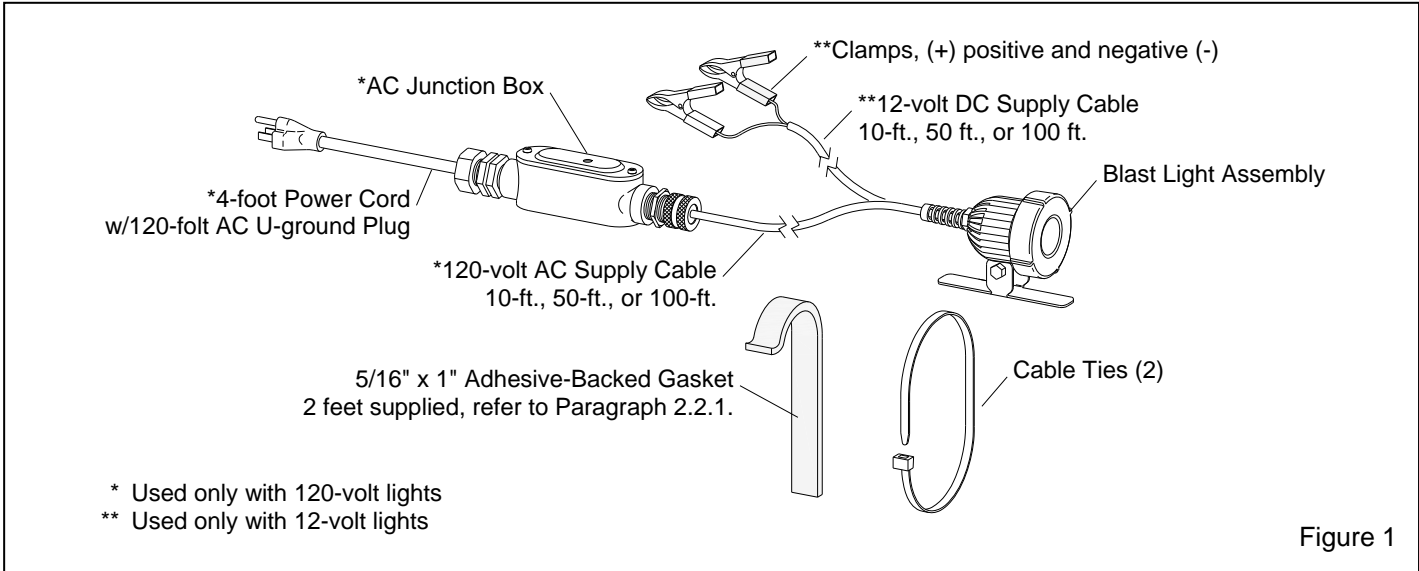

Figure 1
1.4.1 The components of the Beacon blast light are shown in Figure 1, and include.